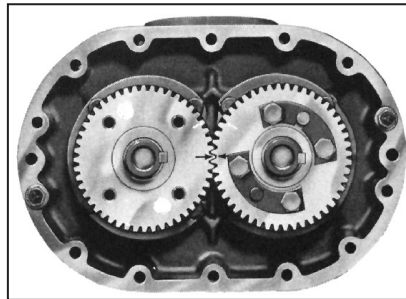
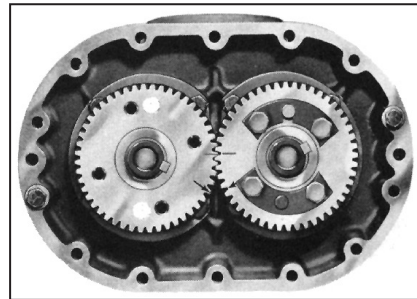
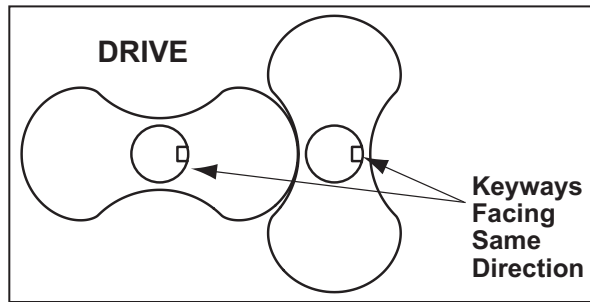

Figure 16 - Position of timing marks
Figure 17 - Position of timing marks
Figure 18 - Keyways position
4. Remove seal housing (91). Tap out seal and discard O-rings.
5. Remove gear cover cap screws (26) and gear cover (6) by placing two of the screws in the tapped jacking holes provided on the cover flange. Support cover with lift straps or other suitable means while removing. The jackscrews will provide the force necessary to break the seal between cover and end plate.
6. Temporarily secure end plate to housing with two screws (26) and some flat washers. Remove four nylok screws (66) from drive shaft (45). A light tap with a mallet will break it loose from the gear. Remove mating ring of mechanical seal [54].
7. Bend back lock tabs and remove cap screws (29), lock (59), washers (25) and spring pins (68).
8. Position timing gears (8) so both timing marks are matched. See Figure 16. Rotate drive gear clockwise approximately three teeth and mark a matching reference line on each gear as shown in Figure 17. This gear position is necessary so rotors will clear and not jam. Using a gear puller with a live center or a centering adapter, large enough so it will not jam into threaded hole, pull driven gear, while keeping matched reference line marks aligned. Use a slight rocking motion to insure rotors have not jammed. Should jamming occur, release pressure and tap gear back on until it rotates freely. Pull mating gear.
3. Place free end plate on suitable blocking with rotor side up. Stand rotors (1) into each bore with gear end shafts up and keyways facing in the direction shown in Figure 18 to the right.
4. Install the gear end plate (4) over the rotor shafts and coming to rest on top of the rotor lobes, being careful not to damage the seals. Recheck the location of the oil sight glass in relation to the drive rotor before proceeding with the assembly. Inspect lapped surface of seal mating ring to be sure it is perfectly clean. Use a soft tissue and cleaning agent if necessary. Place a few drops of lubricating oil on its surface and lubricate the O-ring. Install on rotor shaft with lapped surface down. Slot must line up with pin (300) in rotor shaft. Gently press with fingers to insure compression is taking place and mating ring is not hung up for any reason. Top of mating ring should sit flush with rotor shoulder when fully seated.
5. Coat the rotor shafts with an anti-seize lubricant and press the bearings (9) on the shafts. The bearing manufacturer numbers and/or an acid dot (inner race) should be up or toward the gears. Use the tool shown on page 44 along with a length of 3/4 - 10 x 6" threaded rod, washer (25) and nut. The use of a hydraulic ram with a hollow center is also recommended. In this case the threaded rod will have to be made longer.
6. Install bearing retainer plates (14) and secure with cap screws (30).
7. Check clearance between the face of the end plate and rotor lobes. Refer to *Assembly Clearances* table on page 41 for correct gear end clearances. If clearances are not within specifications, recheck parts to find cause of improper clearances before proceeding. Install keys (24) in rotor shaft keyways.
8. Lubricate shafts and keys and press drive gear (right hand helix) on drive rotor. To install driven gear, align reference marks as shown in Figure 17 on page 35. Tap gear with mallet to start then press the gear until seated.